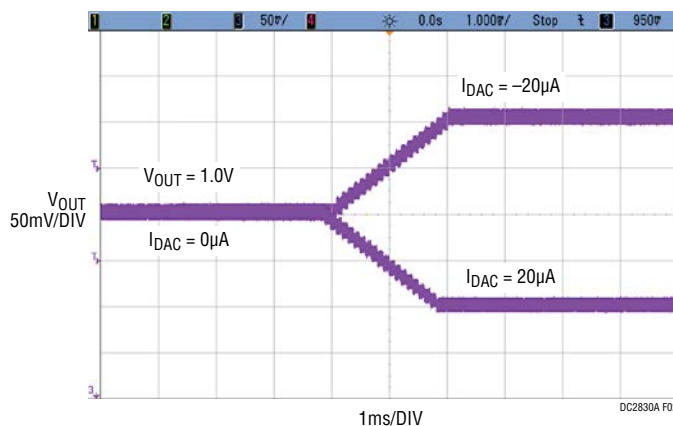

Figure 2. Typical Margin High and Margin Low Waveforms of LTM4636 by LTC7106
- The output voltage will change by the following equation, where R_{FB1} is the top resistor of the voltage divider and I_{DAC} is the programmed bidirectional current of the LTC7106. In the LTM4636, R_{FB1} is 4.99k inside the module. Therefore, the user can simply choose I_{DAC} value accordingly to achieve the desired V_{OUT} adjustment. See Figure 2 for a typical V_{OUT} waveform with $\pm 20\mu A$ I_{DAC} .